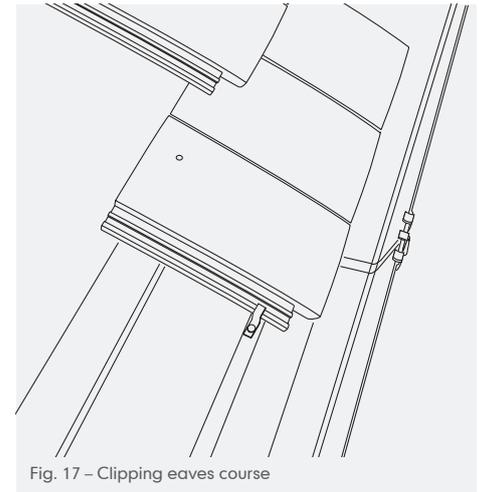

Fig. 17 – Clipping eaves course
- 2 Purpose made eaves clips are nailed to fascia board and located over side lock of the eaves course tile (Fig. 17).